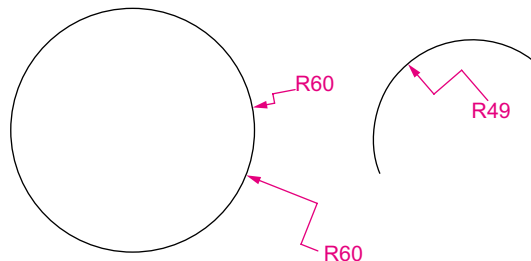

Fig. 6.16 Examples – the Jogged tool
The Jogged tool (Fig. 6.16)
1. Draw a circle and an arc as indicated in Fig. 6.16.
The results of placing as jogged dimension on a circle and an arc are shown in Fig. 6.16.